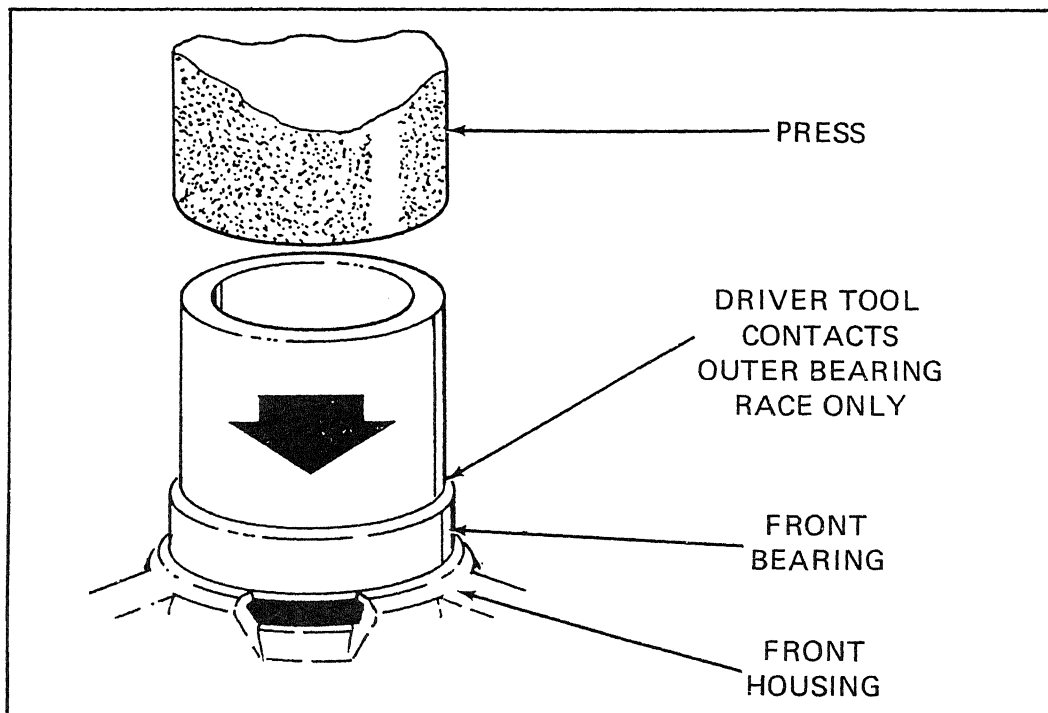

Figure 5-28.26. Installing Front Bearing
- (2) Using a driver tool that exerts pressure on the outer race only, press the bearing into the front housing (Figure 5-28.26) then, install the front bearing retainer making sure the retainer ears line up with the opening in the housing.